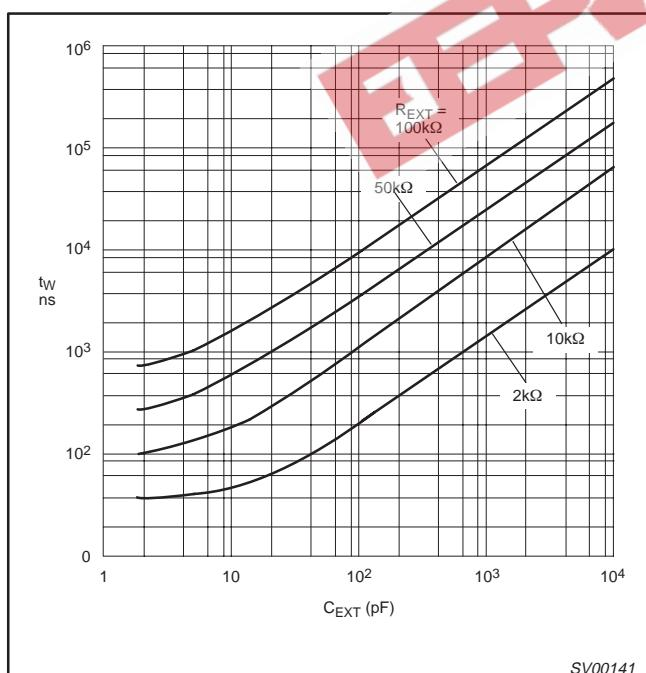

Figure 6. Typical output pulse width as a function of the external capacitor values at  $V_{CC} = 3.3\text{V}$  and  $T_{amb} = 25^\circ\text{C}$ .
1. Unless otherwise stated, all typical values are at  $T_{amb} = 25^\circ\text{C}$ .2. Typical value measured at  $V_{CC} = 3.3\text{V}$ .3. Typical value measured at  $V_{CC} = 5.0\text{V}$ .4. For other  $R_{EXT}$  and  $C_{EXT}$  combinations see Figure 6.If  $C_{EXT} > 10\text{nF}$ , the next formula is valid: